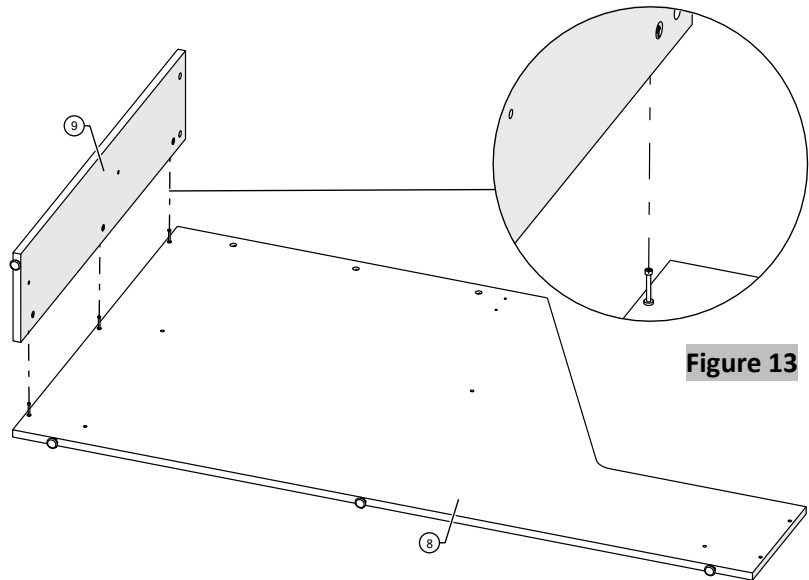

Figure 13
16. Connect the reception countertop gable to the angled reception countertop modesty and press tightly together by inserting the combi dowels into the holes of the reception countertop gable (Figure 13).